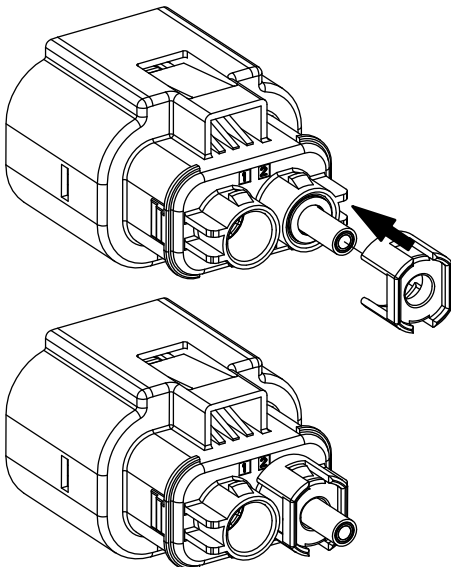

Figure 19
4. Slide the cable seal retainer along the cable and snap it over the locking features. Visually check to ensure that both locking features are engaged as shown in Figure 19. Use a light tug to check that it is fully locked in place.